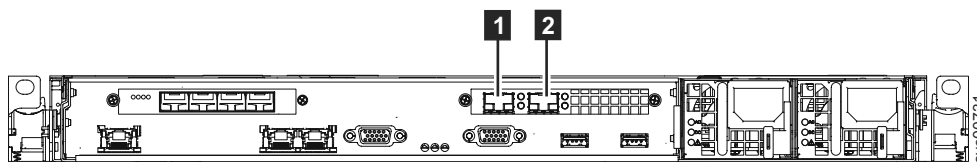

Figure 35. 10 Gbps Ethernet ports on the rear of the SAN Volume Controller 2145-CG8
2. Optional: If the 10 Gbps Ethernet feature is installed, you can connect Ethernet optical cables to Ethernet port 3, as shown by **1**, and Ethernet port 4 (**2**), in Figure 35.